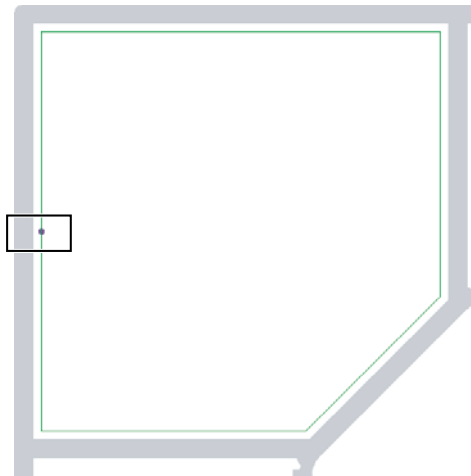

Figure 7.34
2. Using the Point tool from the Draw panel, place a point at the midpoint of the left-side vertical reference line segment, as shown in Figure 7.34.